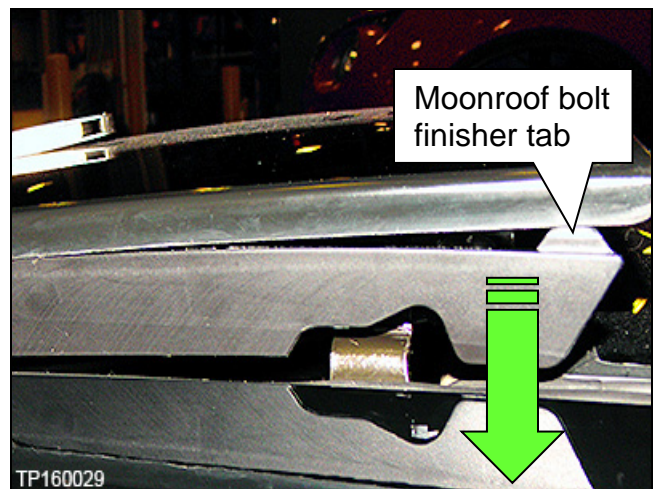

Figure 41
- b. Pull "Moonroof bolt finisher tab" (plastic tab) down and away from the Moonroof and allow to rest in the position shown in Figure 41.